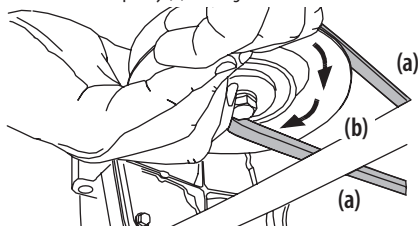

Figure 42
- d. While still holding the PTO belt (a) downward, continue turning the PTO pulley (b) until the PTO belt (a) is rolled off the PTO pulley (b). See Figure 42.
8. Pull the right side of the PTO belt rearward and place the narrow V-side of the PTO belt into the PTO pulley. See Figure 42 on page 28.
9. While holding the PTO belt and PTO pulley together, rotate the PTO pulley to the left (See Figure 42 on page 28). Continue holding and rotating the PTO pulley and PTO belt until the PTO belt is fully rolled into the PTO pulley.